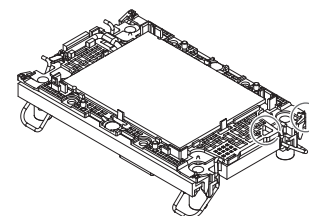

Figure 3
4. Identify processor Pin 1 and onboard socket Pin 1 to decide the heatsink installation direction; for certain motherboards, the Pin 1 location will be different with CPU1 and CPU2. (Figure 3 & 4)